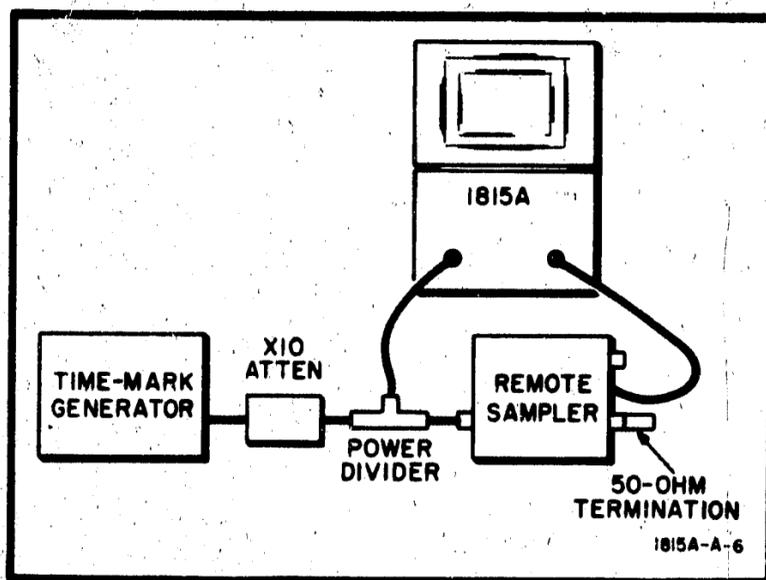

Figure 5-2. TIME/DIV Test Setup
a. Connect the Time-mark Generator to the remote sampler as shown in Figure 5-2.